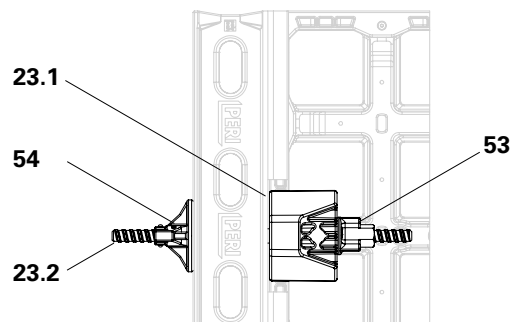

Fig. A3.09d
6. Tighten with the DW 15 wingnut counterplate (**54**) from the rear by hand or with the DUO cleaning device (**8**). See section A3, panel connections, tool. (Fig. A3.09d + A3.09e)